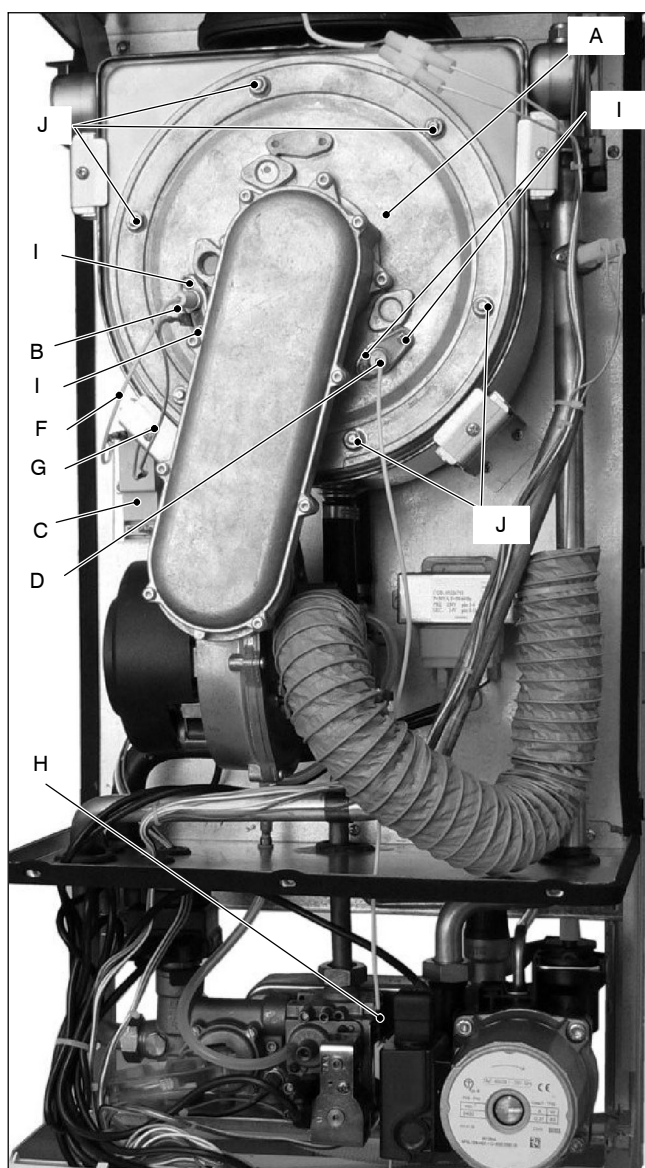

Fig. 18.1
- 2 Disconnect the ignition electrodes connector *F* and the earth wire *G* from the spark generator (Fig. 18.1) and disconnect the detection electrode connector *H*.
- 3 Unscrew the screws *I* and remove the ignition electrodes *B* and the detection electrode *D* (Fig. 18.1).
- 3 Unscrew the nuts *J* (Fig. 18.1 )and remove the cover of the combustion chamber.
- 3 Unscrew the nuts *K* (Fig. 18.1 )and remove the cover of the combustion chamber.